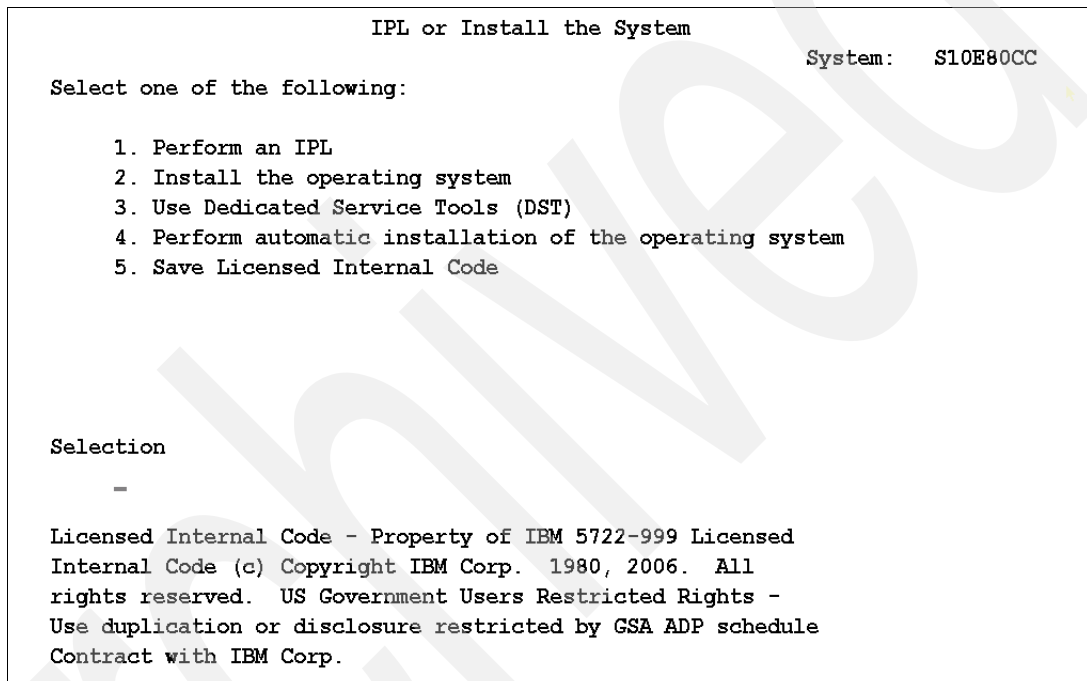

Figure 3-15 The IPL or Install the System screen
5. In the next screen (Figure 3-15), enter 3 (Use Dedicated Service Tools).